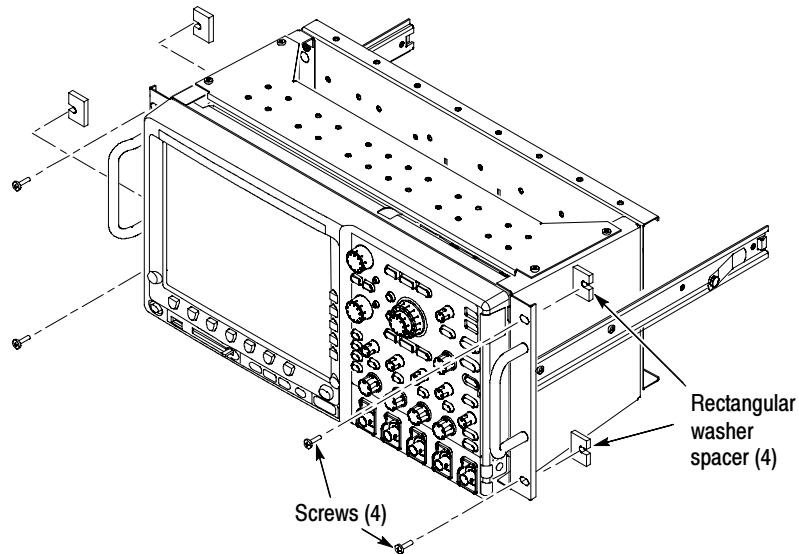

Figure 13: Securing the instrument to the rack
- a. Secure the instrument in the rack using four 10-32 x 0.625 in screws and rectangular washer spacers as shown in Figure 13.